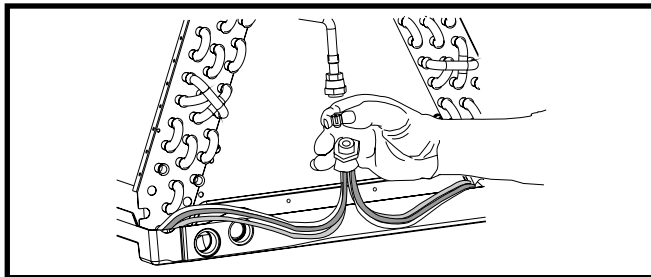

Figure 4. Restrictor Insertion into Distributor Body
4. Insert the new orifice into the distributor body, rounded end down. See Figure 4